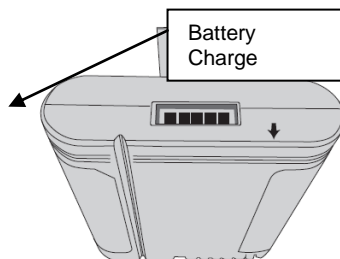

Figure 1: Battery with Full Charge
- For optimal performance, charge the Batteries completely before initial use and after each use. Check the status window before each use to confirm the charging status (Figure 1). Each bar of the Battery status window represents approximately a 20% charge.